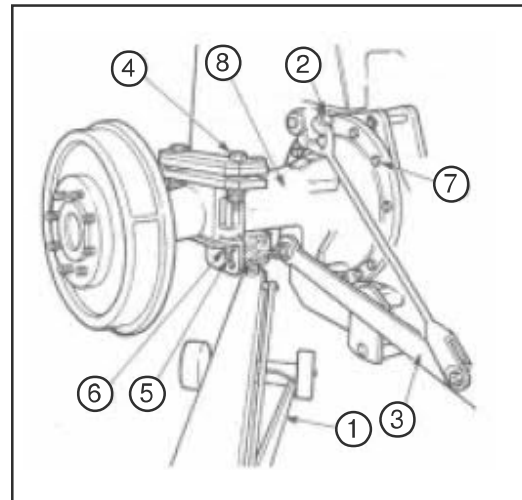

Fig. 9
3. Jack up the tractor under the axle housing being serviced. (Item 1 in Fig. 9).
10. Release the lift rod at the lift arm knuckle. (Item 2 in Fig. 9).
11. Remove the lower link assembly complete. (Item 3 in Fig. 9).
13. Remove bolts from the fender. (Item 4 in Fig. 9).